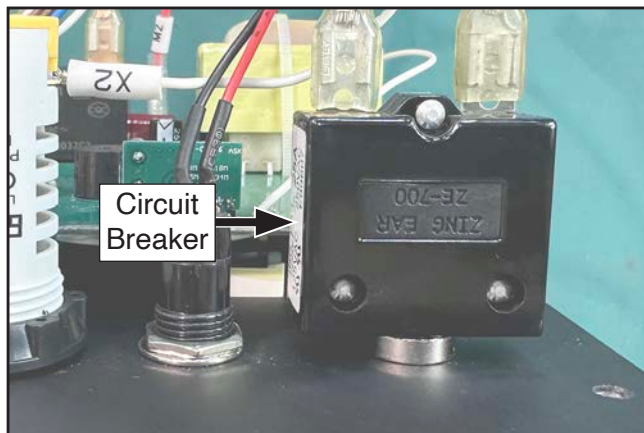

Figure 11. Location of circuit breaker.
- Remove 25A circuit breaker (see **Figure 11**) and replace with 15A circuit breaker.